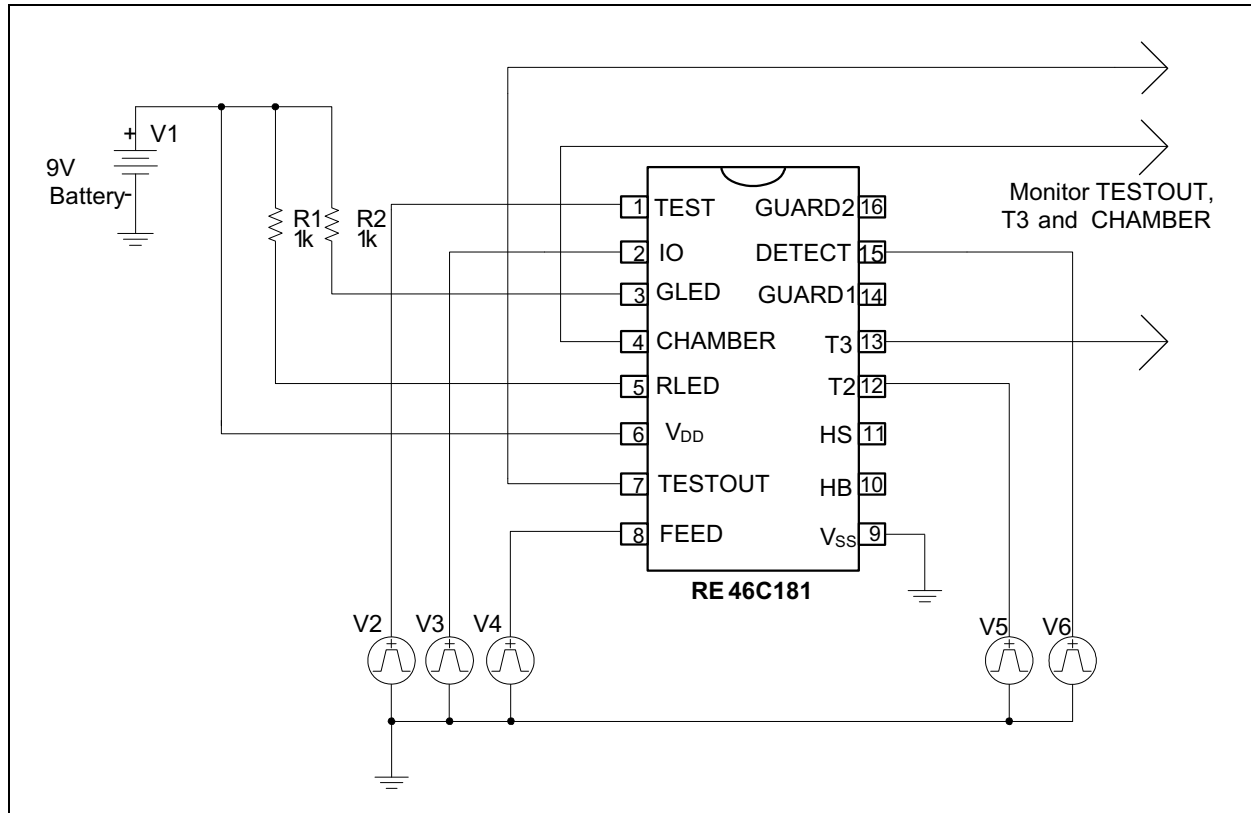

FIGURE 4-1: Nominal Application Circuit for Programming.
1. Power up with the bias condition shown in Figure 4-1. At power-up:
1. Power up with the bias condition shown in Figure 4-1 to enter M0. At power-up: